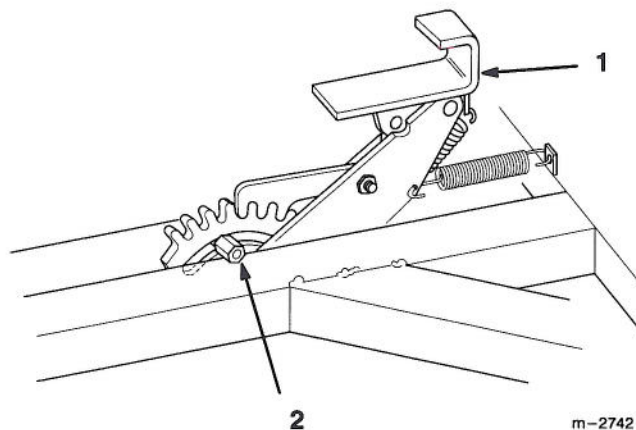

Figure 11
2. Loosen down stop on attachment lift (Fig. 11).
3. Set attachment lift to the correct position for selected cut height (Fig. 11).
4. Slide down stop against attachment lift and tighten bolt (Fig. 11).